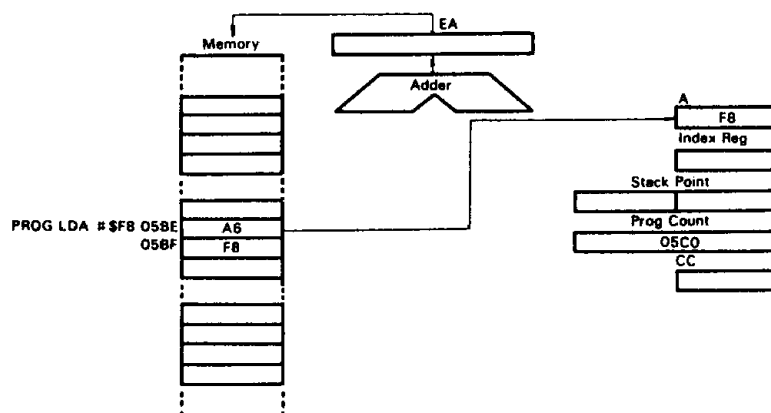

Figure 29 Example of Immediate Addressing
See Fig. 29. The immediate addressing mode provides access to a constant which does not change during program execution. This access requires an instruction length of 2 bytes. The Effective Address (EA) is the PC and the operand is fetched from the byte following the operation code.